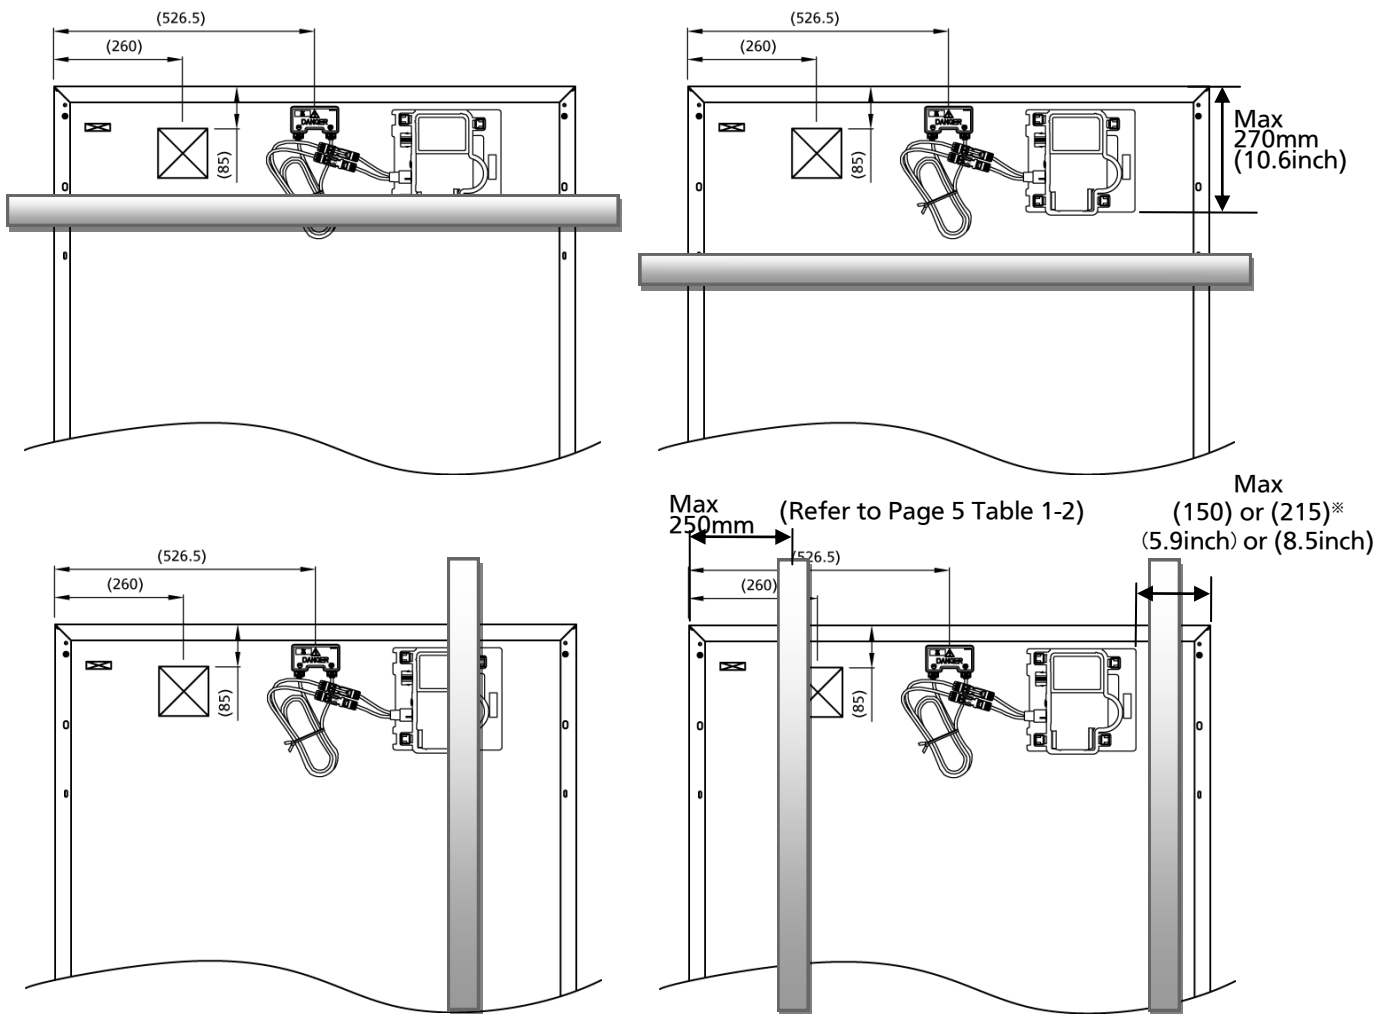

Figure 11. Position of the mounting structure rail
- **Do not** allow the microinverter to interfere with the mounting structure rail when fixing the module to the mounting structure rail. (See Figure 11)